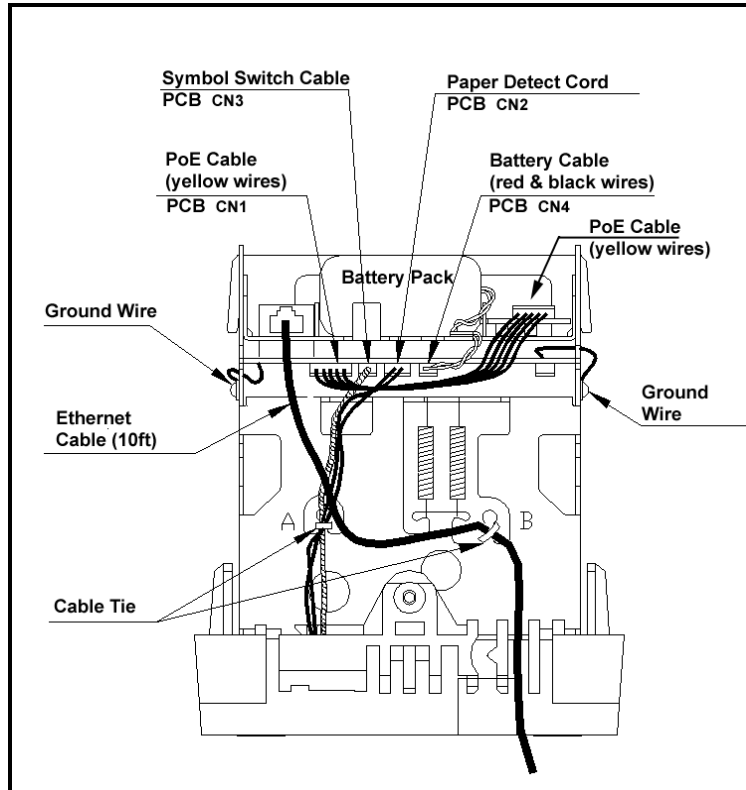

Figure 2-13. Rear View Showing PoE & FPR Cables/Connections.
12. Plug in the FPR battery pack cable (the connector with the black and red wires) into the small open connector (see *Figure 2-13*) located just under the battery pack on the PCB. Next, plug in the PoE connector to the left of the FPR connector for the PoE cable (yellow wires). It is keyed and can only fit into the connector one way. The connection for the PoE cable has a 5-pin connector on the main PCB and a 5-pin connector at the PoE PCB. Both connector ends are keyed (can only fit in one way). You may have to temporarily remove the connector on the PoE PCB to install the top plate.